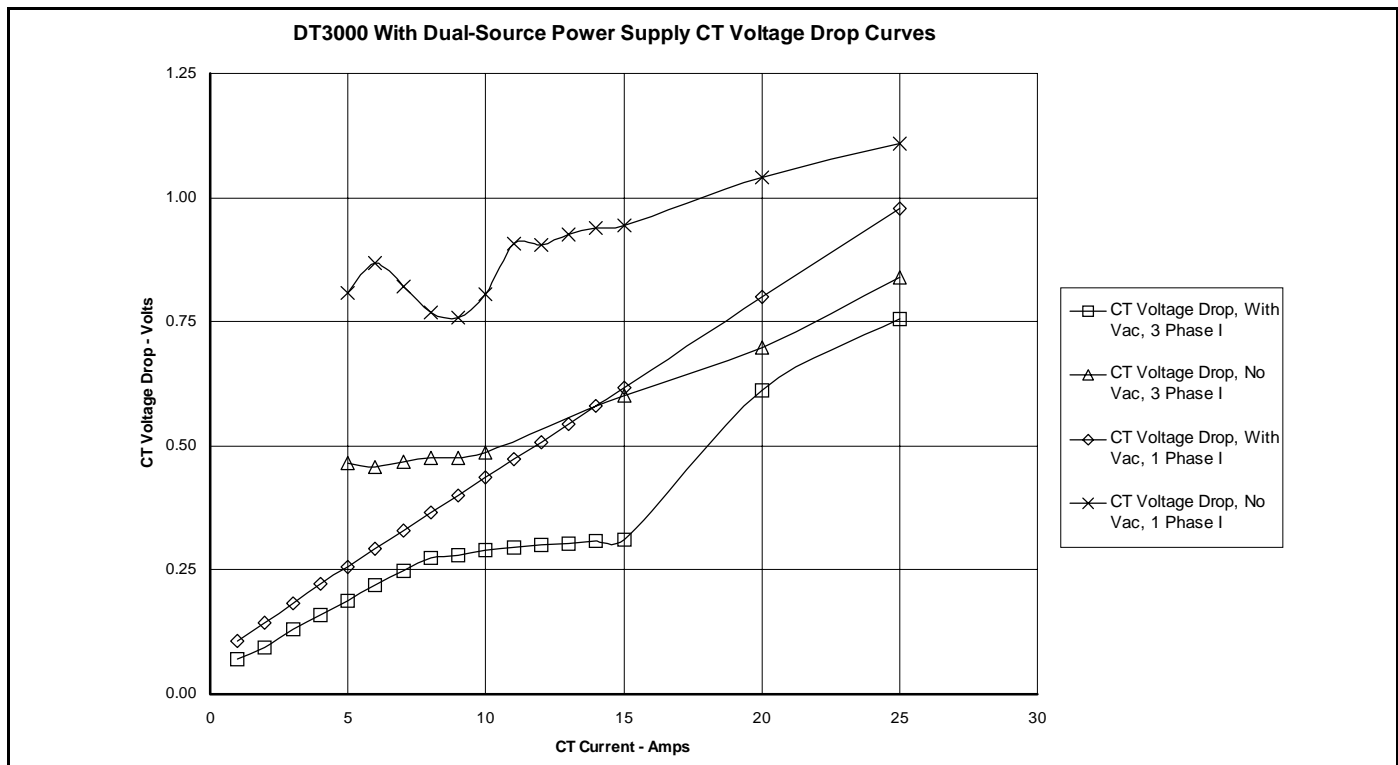

Fig. B-9 Digitrip 3010/3020 Protective Relay CT Voltage Drop Curves
- 7.1.5 Connect an isolated ac multimeter across any one phase ct input and observe the voltage drop, which will be less – maybe much less – than 0.25 volt. See Figure B-9.
- 7.1.7 The ac voltage drop across the ct input should rise to a larger value, at least twice as large as when ac was applied, and maybe approaching 0.5 volt as shown in Figure B-9.
- 7.2.6 Repeat step 3 for Phase C. This time, use an isolated ac multimeter to measure the voltage drop across the Digitrip 3000 current input during the test. Check the value against the “No Vac, 1 Phase I” curve, the highest curve, of Figure B-9.
- 7.2.7 Apply ac control voltage again, with Phase C current still applied, or reapply it. The voltage drop shown on the multimeter should decrease to the value for the “With Vac, 1 Phase I” curve of Figure B-9. With ac power applied, this voltage will be roughly half of the value without the ac power applied.